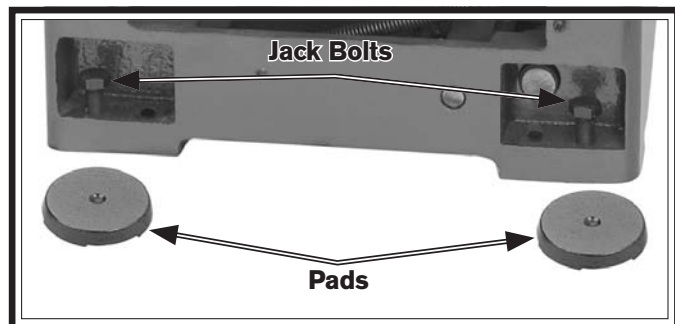

Figure 18. Leveling pads and screws.
- If using the included leveling pads (see **Figure 18**), place them under the six leveling jack bolt locations, then adjust the bolts to level the lathe.